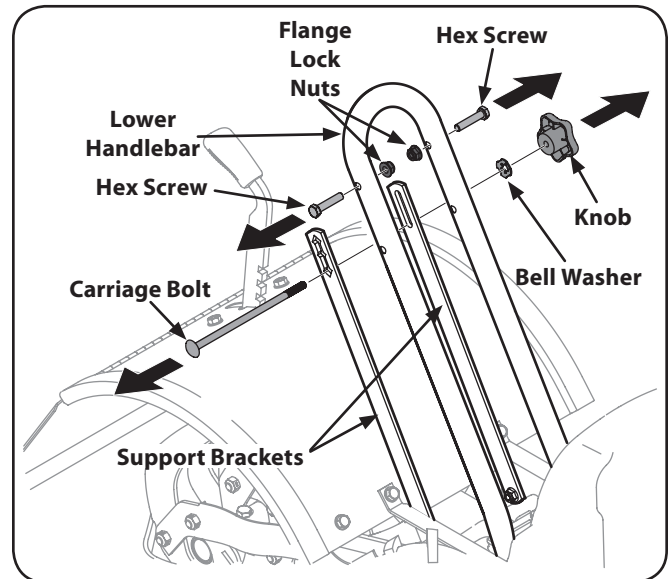

Figure 3-1
1. Remove two hex screws (⅝-18 x 1.50), two flange lock nuts (⅝-18), carriage bolt (⅝-18 x 6.75), bell washer (.326 x .875 x .145) and knob (⅝-18) from the lower handlebar and support brackets. See Figure 3-1.